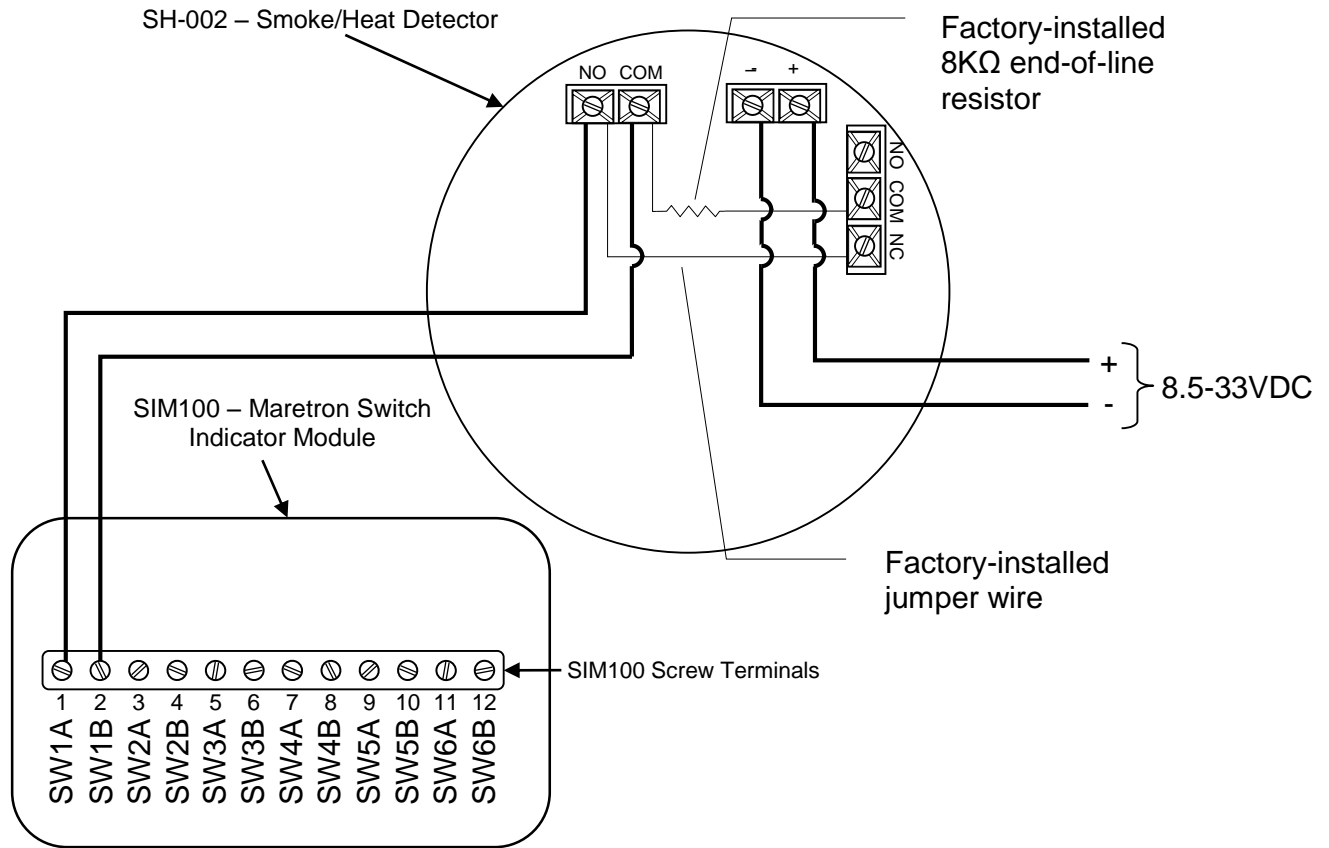

Figure 1 - Wiring Diagram
Please follow these instructions to connect the SH-002 to the NMEA 2000® network via a Maretron SIM100 Switch Indicator Module. The wiring diagram appears in Figure 1 on the reverse side of this page. The diagram shows a connection to channel #1 of the SIM100, but connections to other channels are similar.
1. Connect the SH-002 power terminals (marked as + and -) to an 8.5-33VDC supply that is independent of the NMEA 2000® network power supply as shown in Figure 1. Powering the unit separately from the NMEA 2000® network allows the detector to work even when the NMEA 2000® network is powered off.
2. Connect the SH-002 two alarm contact terminals (marked NO and COM) to a free switch channel on the SIM100. The example in Figure 1 shows the SH-002 smoke/heat detector connected to the SIM100 switch channel 1, terminals (marked SW1A and SW1B).